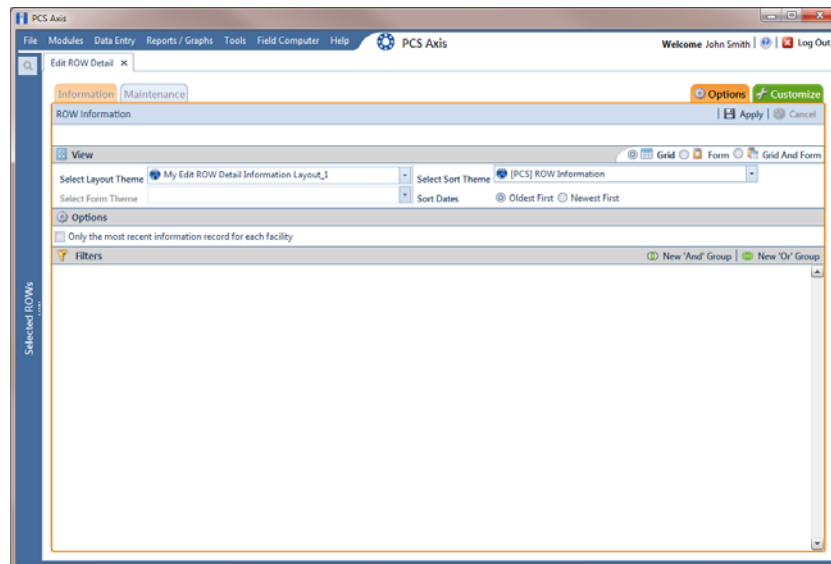

Figure 4-35. Options
- a Click the **Options** tab  to open the options page (Figure 4-35).